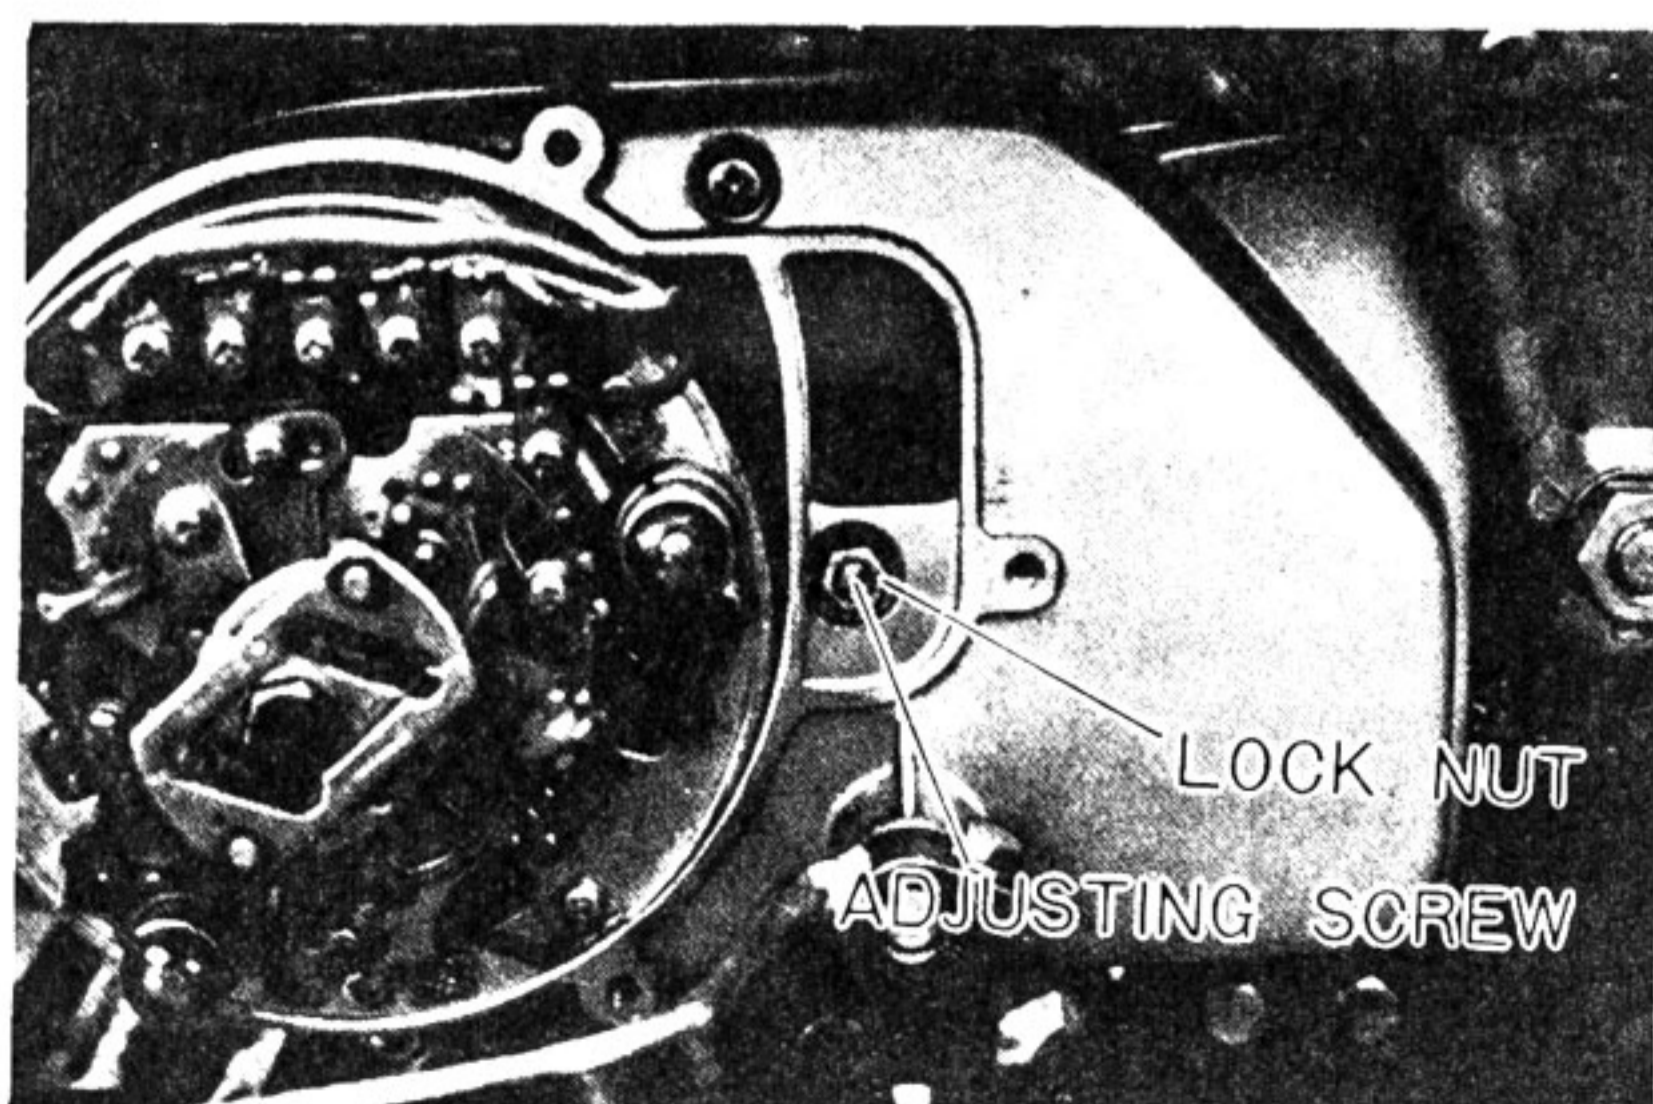

Fig. 4-9-14
(Fig. 4-9-14)
- b. Loosen the adjusting screw lock nut as shown in Fig. 4-9-14.
(Refer to Fig. 4-9-14).